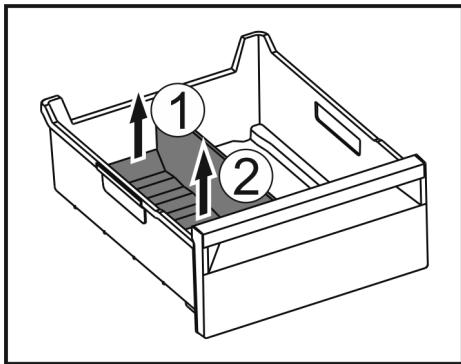

Fig. 169
- ▶ Lift the rear part of the ice compartment divider. Fig. 169 (1)
- ▶ Remove the ice compartment divider upwards. Fig. 169 (2).